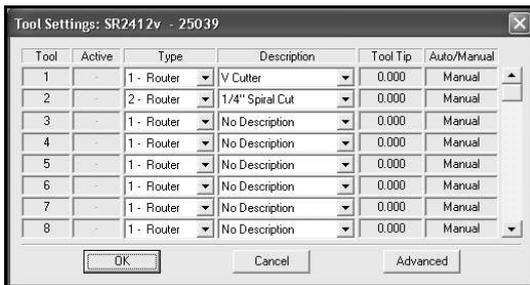

Fig 1.
- Select **SETUP** from the Main Menu, click on the **Configure Tooling** button then click on the **Advanced** button. (refer Fig 1.)